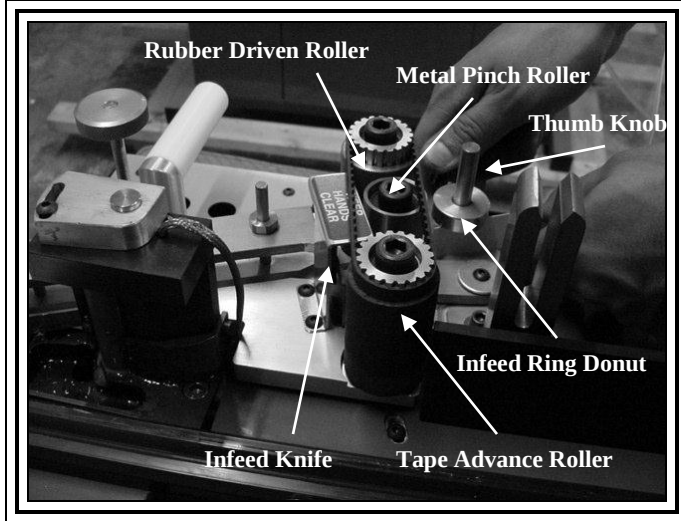

FIGURE 9
1. Starting Tape Into Advance Rollers (FIGURE 9)